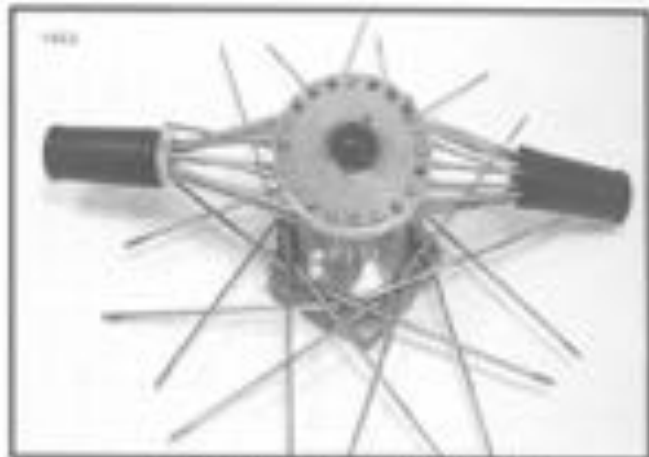

Figure 2-25. Bundling Top Spokes
5. See Figure 2-25. With all forty spokes inserted in hub, group all spokes on top flange into two bundles. Secure each group with throttle grip or tape to keep the spokes together.